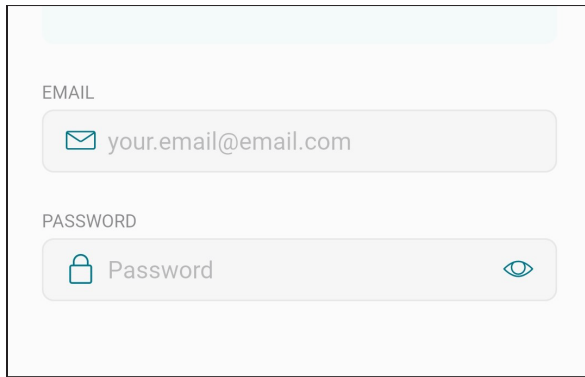

Figure 78. Log in the Raymote Mobile App
- Open the Raymote mobile app and log in with your user name and password. See **Figure 78**.